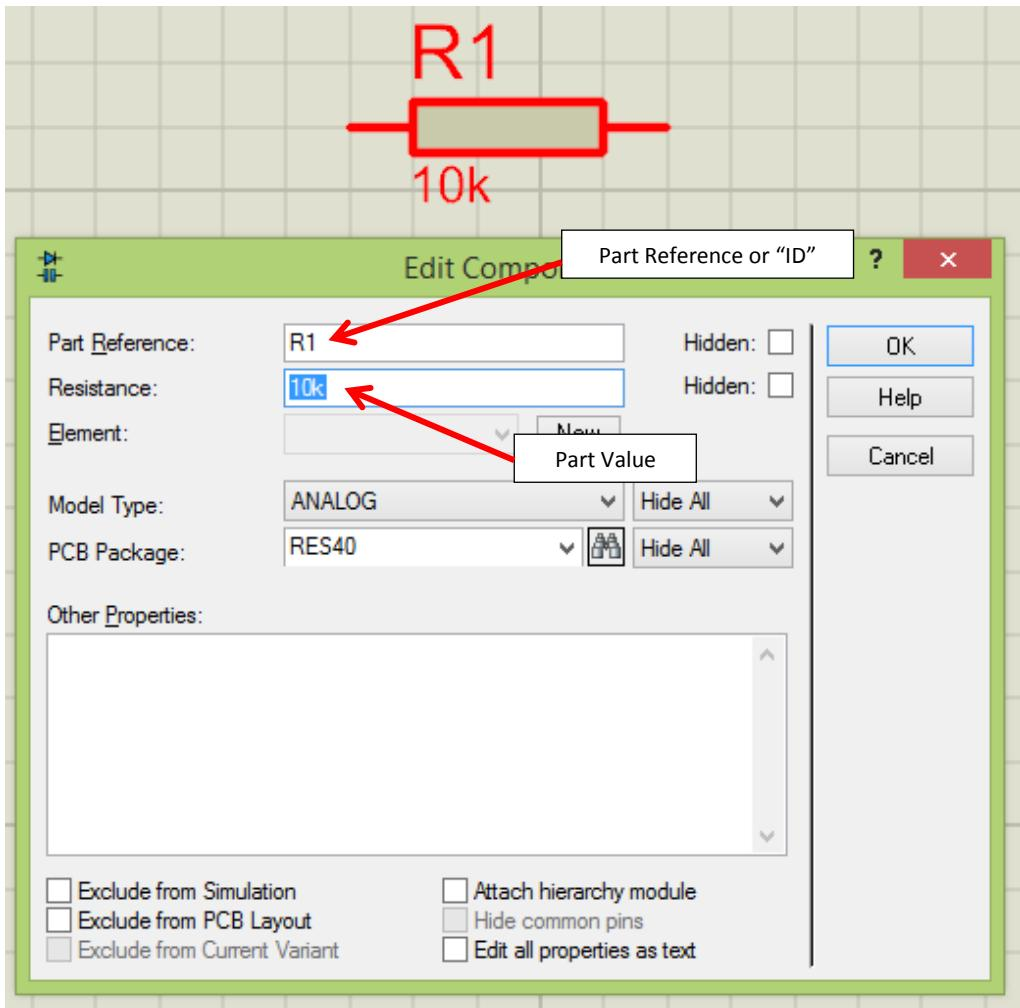

Figure 6-12: Edit Component dialogue
Both the **reference** and **value** of a component can be edited by right-clicking the component and then selecting “Edit Properties” from the pop-up menu; which will bring up the “Edit Component dialog” (Figure 6-12).
- j. Change the **values** (resistance) of the resistors to 330R (which stands for 330Ω , but it is easier to type “R” since most keyboards don’t have a “ Ω ” key). If you need a reminder on how to change a component value then please see section 6.3.5 / Figure 6-12. If you are wondering whether there are easier ways to change the values of the resistors (rather than doing so manually one-by-one) then the answer is yes; the LED and resistor circuit could be first constructed / set and then duplicated (as described in the next section), or a tool called the “Property Assignment Tool” could be used to more quickly set the values of all of the resistors. Use of the “Property Assignment Tool” (“PAT”) is beyond the scope of this book, however information is available in the Proteus Schematic Capture help file. If in doubt, then the simplest solution for now is to just edit the values one-by-one (there are only 5 of them).